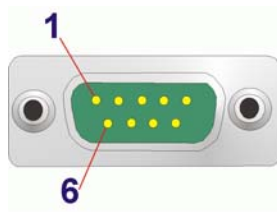

Figure 3-25: COM1 Pinout Locations
- CN Pinouts:** See **Table 3-26** and **Figure 3-25**